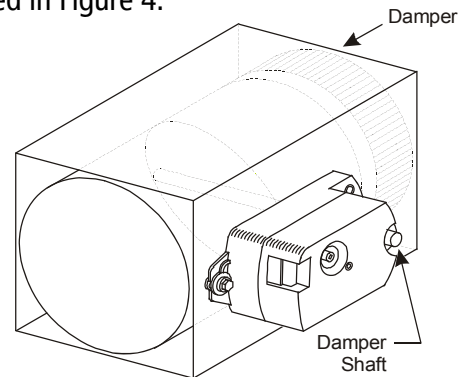

**Figure 3: Damper Rotation**
2. Grasp the damper shaft firmly with pliers and rotate the damper fully closed, as illustrated in Figure 3.